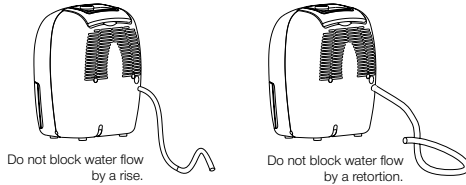

Fig. 6.
- Be sure to run the water hose sloping downward and let the water to flow out smoothly. Do not install the water hose as shown Fig.6.